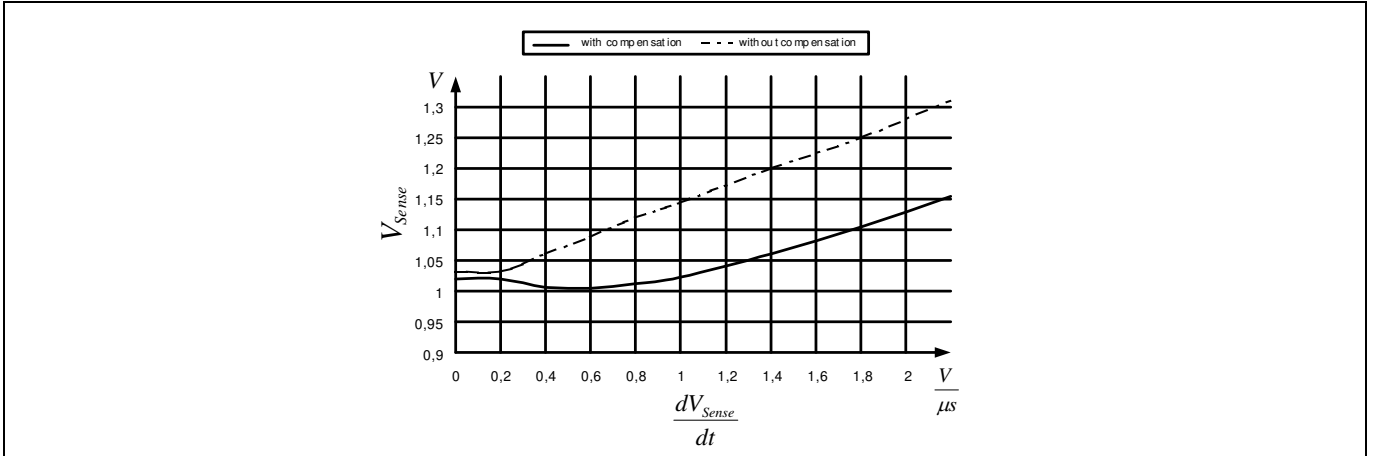

Figure 12 Overcurrent Shutdown
E.g. $I_{peak} = 0.5\text{ A}$ with $R_{sense} = 2\ \Omega$. Without Propagation Delay Compensation the current sense threshold is set to a static voltage level $V_{csth} = 1\text{ V}$. A current ramp of $dI/dt = 0.4\text{ A}/\mu\text{s}$, that means $dV_{sense}/dt = 0.8\text{ V}/\mu\text{s}$, and a propagation delay time of i.e. $t_{Propagation\ Delay} = 180\text{ ns}$ leads then to an I_{peak} overshoot of 14.4%. By means of propagation delay compensation the overshoot is only about 2% (see Figure 12).